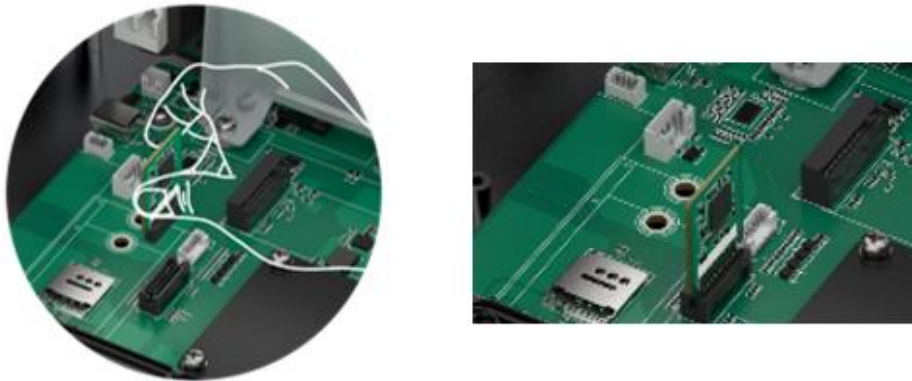

Figure 3-24: Insert the TPM Module
Step 2: Insert the TPM module into the connector. Line up the pins of the TPM module with the pins of the connector (**Figure 3-24**).